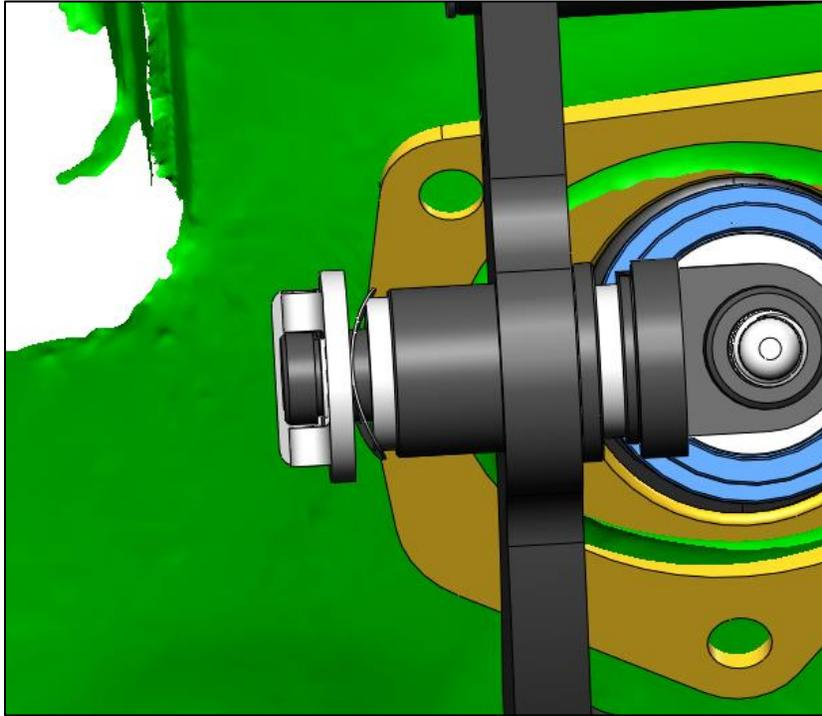

Figure 5: Clutch Rod Linkage Bushings
21. Adjust the linkage to align with the hole in the clutch pedal. Install the wave washer, then M10 nylon washer and clip as shown in Figure 5.